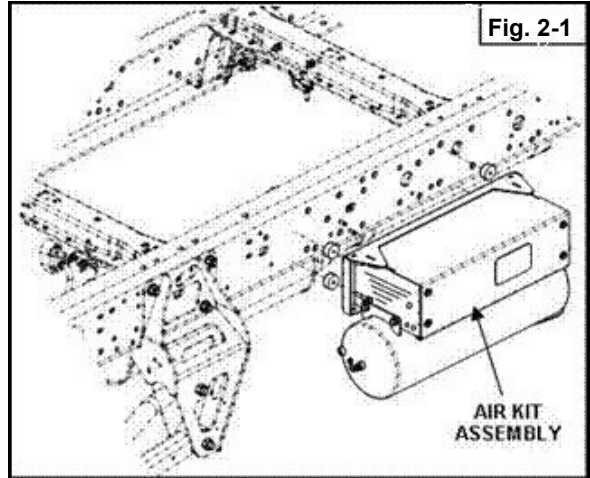

Fig. 2-1
- ❑ Mount the air kit to the side of the frame or any other suitable location as shown in Fig 2-1. Use the supplied rubber isolators and 5/16 nuts and bolts to fasten the kit. (Torque to 15-20 FT-LBS). Some drilling may be required. **Do not over tighten the fasteners** to ensure proper clearance and isolation from the rubber isolators.